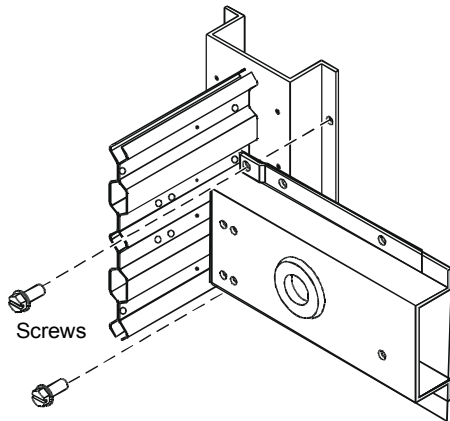

Figure 12: Installing Universal Mounting Bracket
1. Install the universal mounting bracket to the inside of the damper frame using the two holes next to the preferred drive blade. Secure by using two No. 12-24 x 1/2 inch thread-forming, hex-head screws (included in kit), as shown in Figure 12.